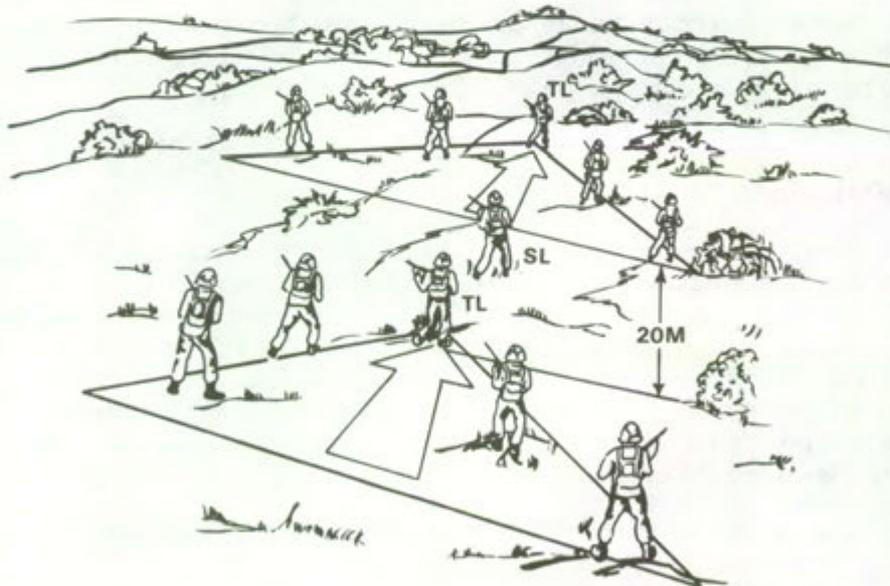

Figure 1. Traveling technique.
a. Use the **TRAVELING** technique when speed is necessary and contact with the enemy is **not likely**. **ONE FIRE TEAM FOLLOWS THE OTHER**, keeping about 20 meters apart, depending on the terrain. When traveling, the best location for the squad leader normally is with the lead team to aid navigation, movement, and control (figure 1).